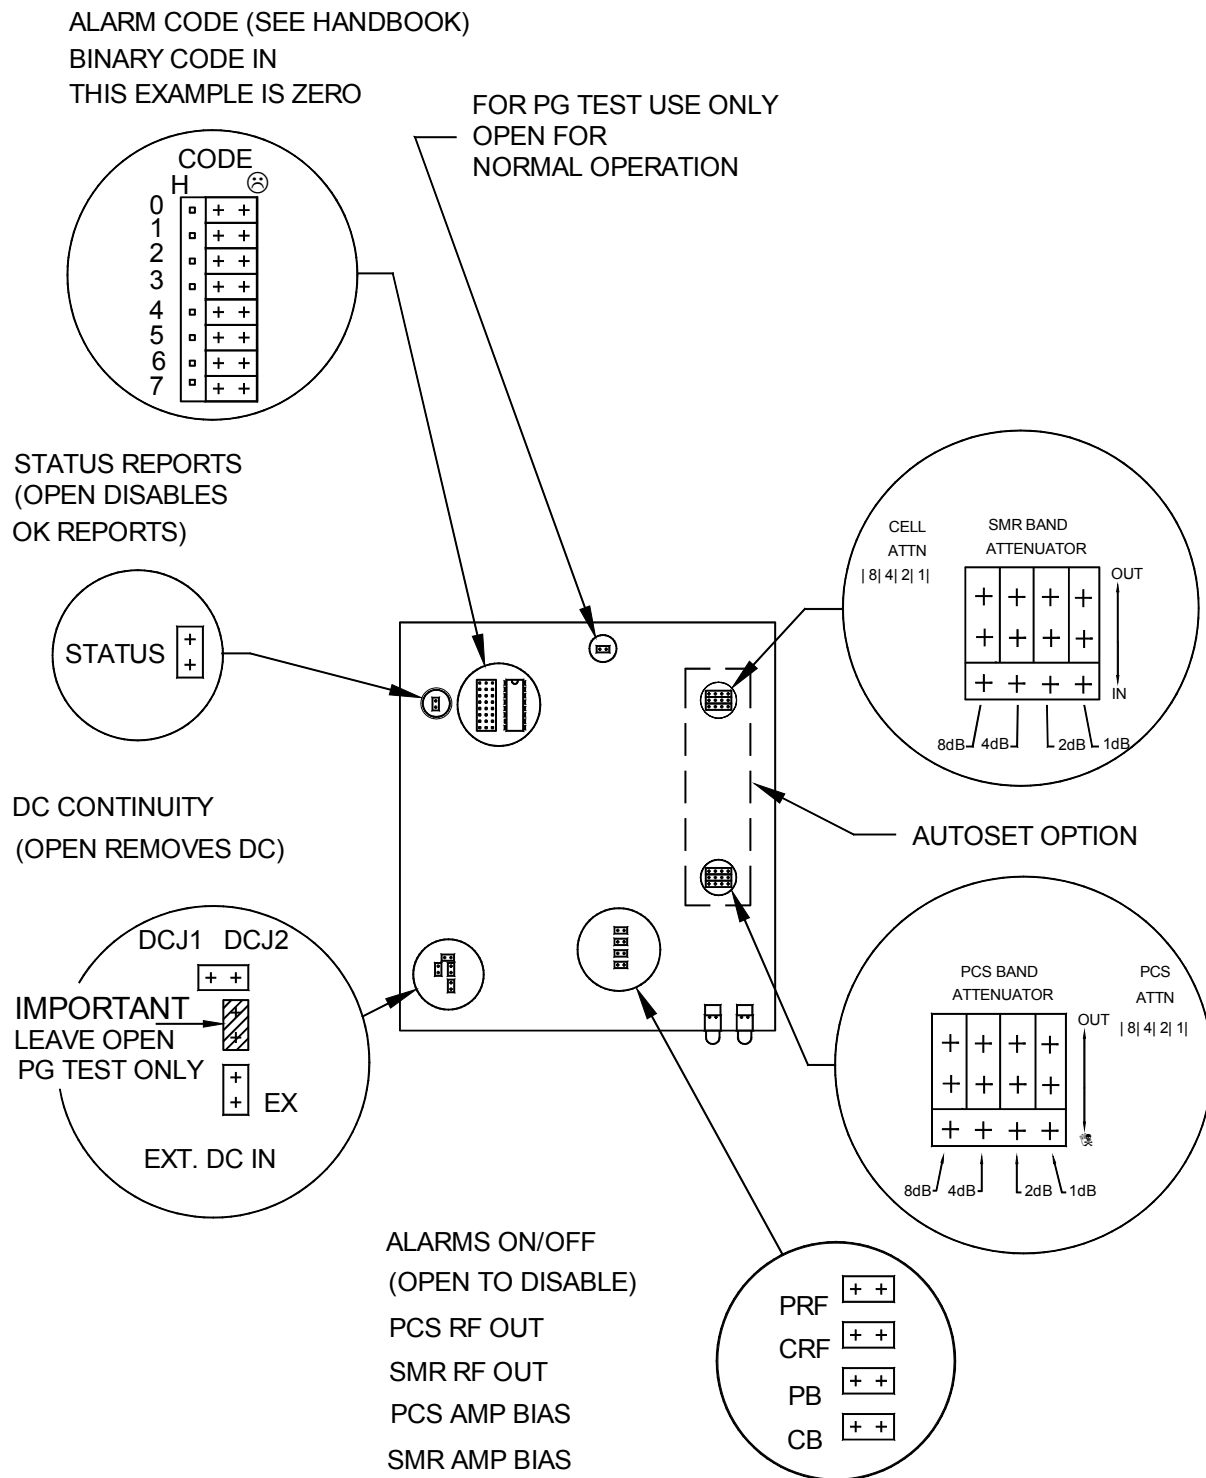

Figure 4-1. A300 Programming Options - Jumper Locations
NOTE: Section 4.0 of this manual describes programming details. For convenience a reduced size copy of diagram Figure 4-1 is provided on the inside of the amplifier cover as a reference.
The amplifier contains a number of options which are programmed before the unit is installed, or may be adjusted during system installation or modification. They are set in a default setting by PG before shipment. A summary diagram of these jumpers is affixed to the inside of the removable amplifier cover for use in the field, but a larger view is shown herein (Fig 4-1) together with the following description of these settings.
1. Refer to the jumper field with a block of eight jumpers labelled 0 to 7 in Figures 4-1 and 4-2.